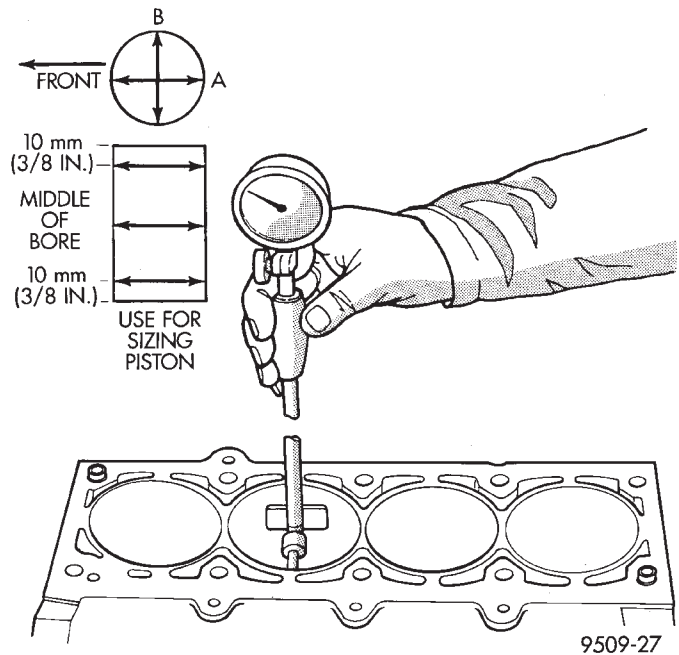

Fig. 70 Cylinder Bore Measurement
(1) It is mandatory to use a dial bore gauge to measure each cylinder bore diameter (Fig. 70). To correctly select the proper size piston, a cylinder bore gauge, capable of reading in 0.003 mm (.0001 in.) INCREMENTS is required. If a bore gauge is not available, do not use an inside micrometer.
(2) Measure the inside diameter of the cylinder bore at three levels below top of bore. Start perpen-